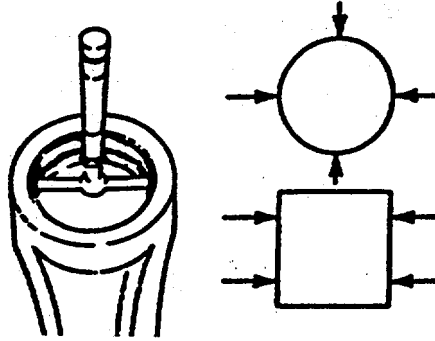

FIGURE 4-40. Measuring Pin Bore.
- g. Measure pin bore in each rod as shown in FIGURE 4-40.